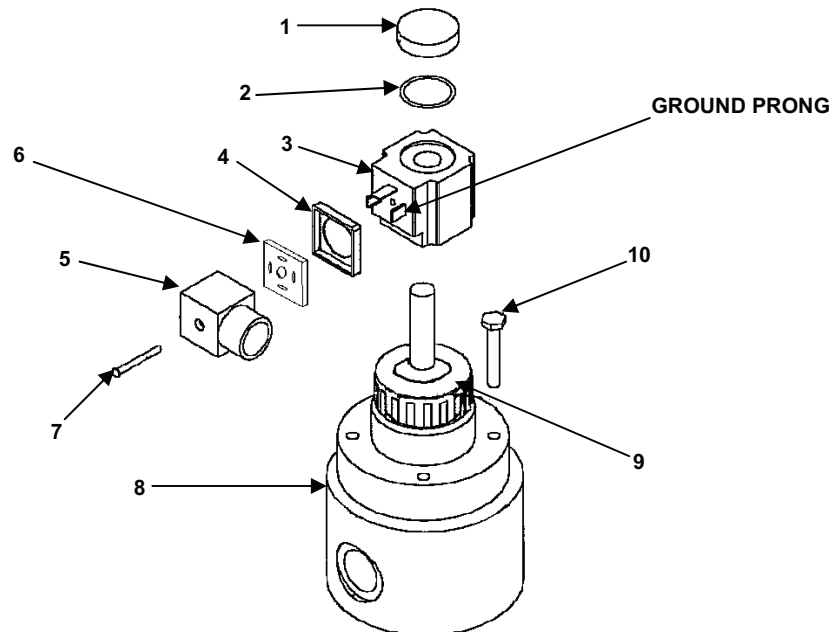

Figure 1. Solenoid Valve (Exploded View).
1. Remove the cap nut (Figure 1, item1) and O-ring (Figure 1, item 2) and slide the coil (Figure 1, item 3) off from the valve (Figure 1, item 7).
2. Remove the screw (Figure 1, item 7) from the electrical connector (Figure 1, item 5), and lighted wafer (Figure 5, item 6)
4. Disconnect electrical connector (Figure 1, item 5) from the coil (Figure 1, item 3).
1. Inspect the O-ring (Figure 1, item 2) and the gasket (Figure 1, item 4) for serviceability.
- b. Measure the resistance across the two spade terminals (facing each other). Not the ground (top flat prong) (See Figure 1). It should read between 108 and 132 Ohms. Replace the coil otherwise.
1. Refer to Figure 1 for this procedure section.
2. Connect the wires to the electrical connector (Figure 1, item 5) if needed.